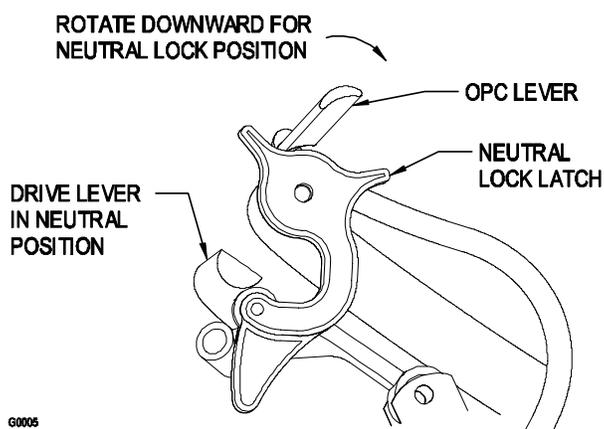

FIGURE 1
- 3.1.2 Drive Levers: Located on each side of the upper handle assembly directly below the handle grips. See Figure 1. These levers individually control the speed and direction of each drive wheel. When the speed control lever is moved out of the neutral position and the neutral lock latches are moved into the drive position, as shown in Figure 1, and the drive levers are released, the drive wheels are engaged in the forward direction.
- 3.1.3 Neutral Lock Latches: These latches allow the operator to lock the drive levers in a "neutral" position where the drive wheels are not engaged in either a forward or reverse direction. See Figure 1.